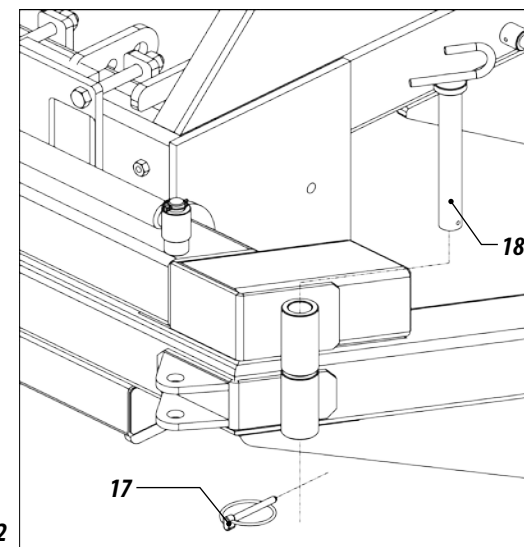
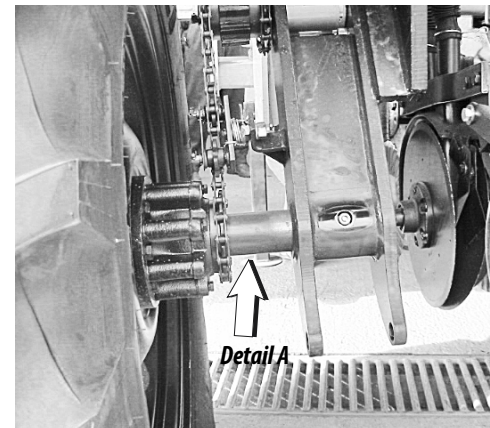

Figure 62
Figure 66
10 - Next, lock the header with the pin (17) and latch (18), figure 62.
14- Operate the rockshaft (22) of the seed drill detail "A" in the up position, in order to latch it by inserting the pin (23) and latch (24), leaving it fastened. Figure 62. figures 66 et 67.